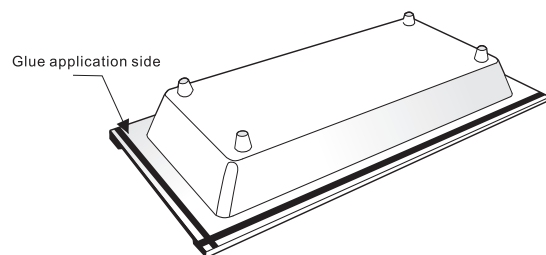

Figure 3
- Attach the provided waterproof tape to the lower part of the stove panel as shown in Figure 3.